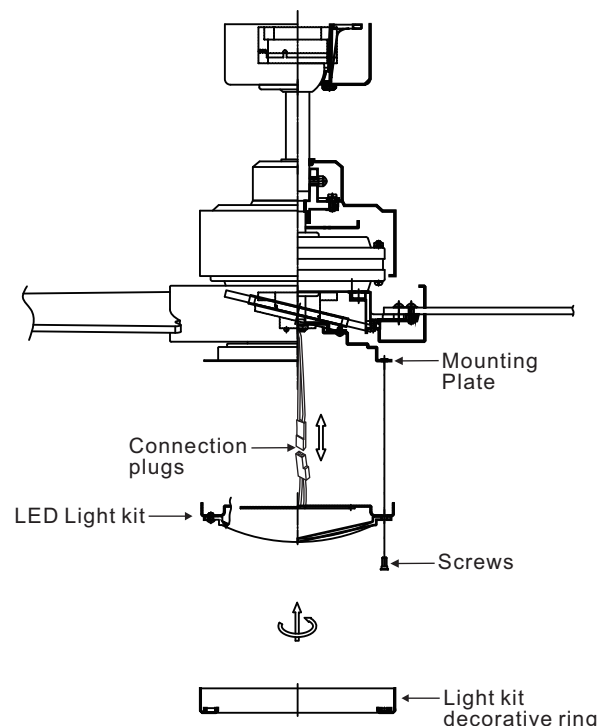

Figure 13
Step 1. Remove the four light kit mounting screws from the posts of the mounting plate. (Fig. 13)
Step 3. Place the LED light kit to the to the mounting plate with the four light kit mounting screws previously removed. Securely tighten the four light kit mounting screws. (Fig. 13)
Step 4. Raise light kit decorative ring up against the LED light kit, and secure it to fan by turning light kit decorative ring clockwise until snug. Do not overtighten. (Fig. 13)